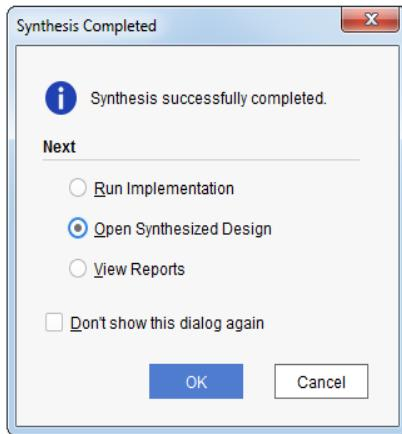

Figure 11.15: Synthesis Completed dialog box
17. After the synthesis is completed, choose **Open Synthesized Design** option in the **Synthesis Completed** dialog box, see Figure 11.15.